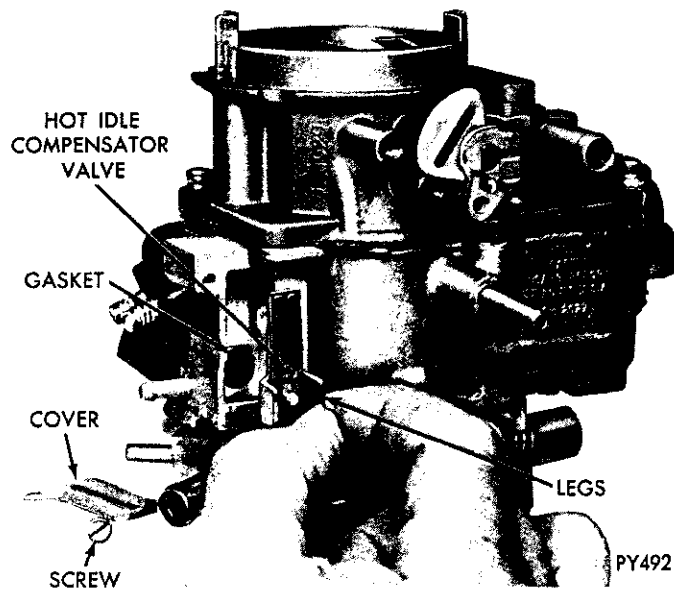

Fig. 4—Removing or Installing Hot Idle Compensator Valve
valve cover to main body. Remove cover, then lift out compensator valve and gasket. (Fig. 4.) (If so equipped.)
(8) Install hot idle compensator valve gasket in position in recess in main body, followed by valve. (Be sure valve is positioned with legs toward outside of main body.) (Fig. 4.) Place cover over opening and install attaching screws. Tighten securely. (If so equipped.)